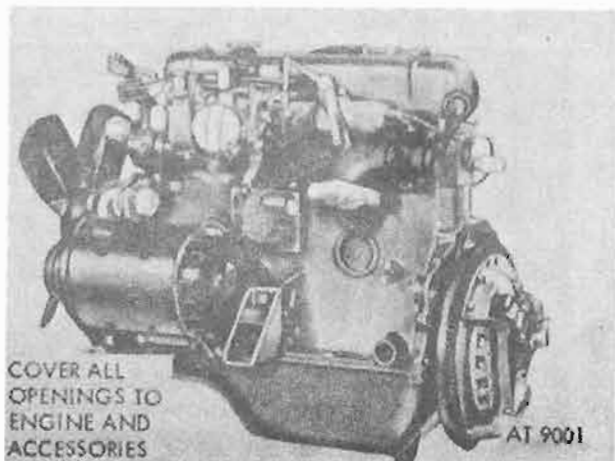

Figure 4-49. Preparing engine for cleaning.
b. *Cleaning and Draining* (figs. 4-49 and 4-50).